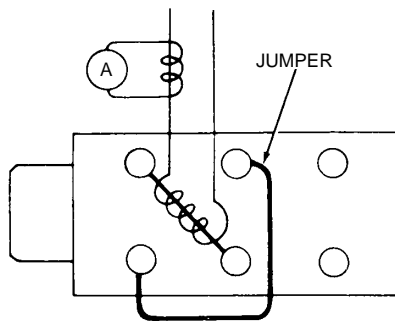

Figure 24.
8. Connect the phases in series as shown in Figure 24 and retest.